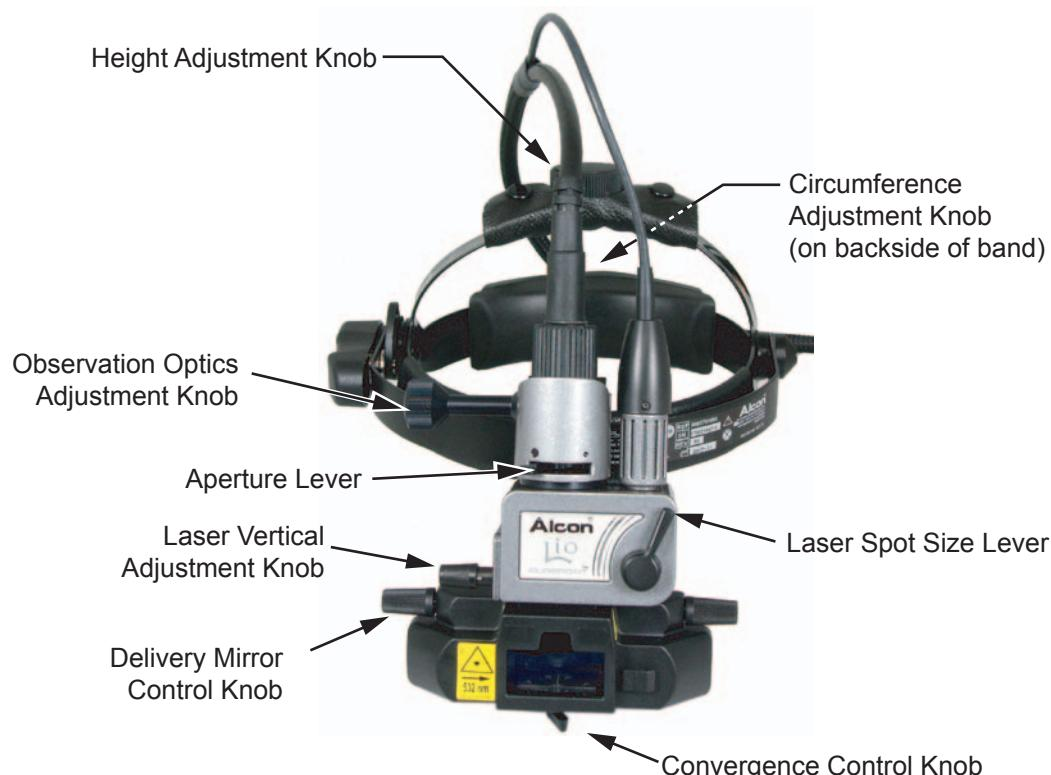

Figure 6-4 PurePoint® LIO Controls and Adjustments
1. Loosen the Observation Optics Adjustment Knob (see Figure 6-4) so that the observation optics are free to move. The Observation Optics Adjustment Knob can be unscrewed and reversed to the other side for left-handed operators. Remove dust cover protecting delivery window.
The Aperture Lever (see Figure 6-4) allows you to choose between two different-sized illumination fields. The choice of illumination field size depends mainly on the size of the patient's pupil (the small illumination field is the recommended setting). The positions of the Aperture Lever for large and small illumination fields are marked with large and small black dots, respectively.
10. Select the laser spot size using the Laser Spot Size lever (see Figure 6-4). The positions of the Laser Spot Size lever for large (approximately 1 mm) and small (approximately 0.5 mm) laser spot sizes are marked with large and small black dots on the right side of the box, respectively. The change of laser spot size from large to small results in approximately four times increase in irradiance within the treatment area, provided that laser power was not adjusted.
12. Use the Laser Vertical Adjustment knob (see Figure 6-4) on the laser delivery adaptation to aim the laser at the desired location within the illumination field.